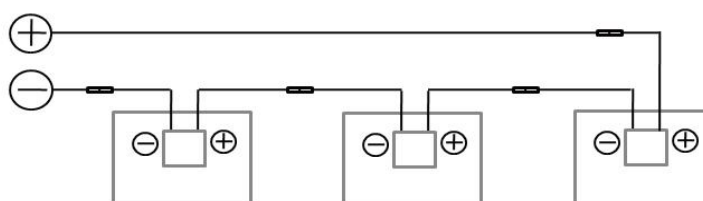
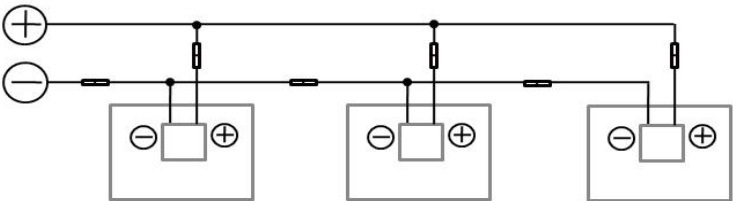
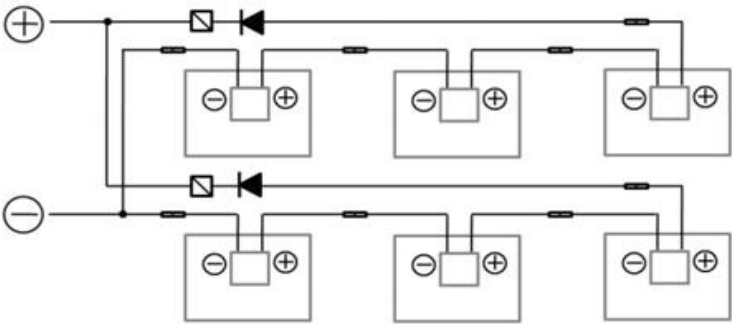

Figure 9-1 Series connection
Figure 9-2 Parallel connection
Figure 9-3 Series-parallel connection
- The direct current (DC) generated by the photovoltaic system can be converted into alternating current (AC) and connected to the public grid. Different regions may have different policies, laws and regulations to stipulate the installation requirements and grid connection requirements of photovoltaic systems. Therefore, please comply with local policies, laws and regulations during the design, installation and grid connection of photovoltaic systems.
- In order to ensure the normal operation of the system, please make sure that the polarity of the cable is correct when connecting modules or connecting loads. If the modules are not connected correctly, the bypass diode and junction box may be damaged. PV modules can be connected in series (Figure 9-1), parallel (Figure 9-2), and series-parallel (Figure 9-3). The number of modules in series and parallel should be designed reasonably according to the system configuration. At the same time, please note that if the number in parallel is ≥ 2 strings, there must be an overcurrent protection device on each string of modules.